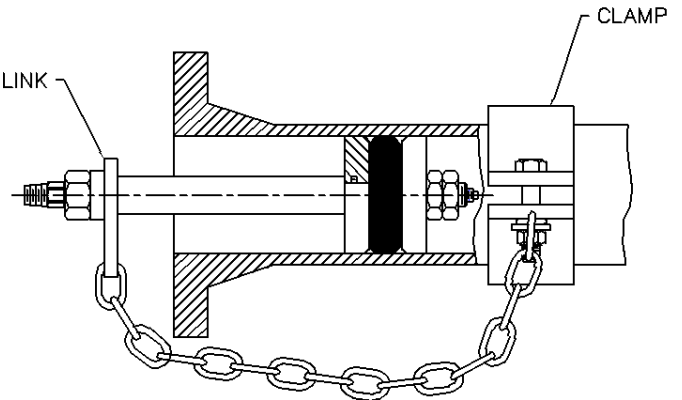

Figure 2. Flange Test Plugs Installed as Isolation Plug, After Flange Has Been Removed.
THE SEAL ASSEMBLY, WHEN NOT ATTACHED TO A PROPERLY INSTALLED FLANGE, WILL NOT SEAL THE TEST PRESSURES PER ANSI B16.5. TO AVOID EXPULSION OF THE SHAFT AND SEAL ASSEMBLY FROM THE PIPE, DO NOT ALLOW UPSTREAM PRESSURE TO EXCEED THE VALUES SHOWN IN TABLE (2) AND INSTALL SAFETY GAG (SEE FIGURE 2).
5. Disassemble plug by removing jam nuts from end of plug. Remove all parts except hex nut and hardened washer. Install safety gag link, long tube and remaining parts as shown in Figure 2. Insert the plug into the pipe. Attach pipe restraint and tighten bolts on clamp to avoid slippage. Proceed with either step 8, 9, or 10 below depending on plug size.
6. Remove hex nut and hardened washer, compression tubes & flange. Install long tube and safety gag link as shown in Figure 2. Insert the plug into the pipe. Attach pipe restraint and tighten bolts on clamp to avoid slippage. Proceed with either step 8, 9 or 10 below depending on plug size.